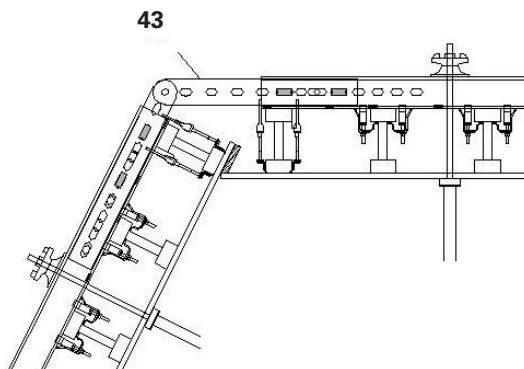

Fig. C2.02
- with large wall thicknesses, e.g. bridge construction (Fig. C2.02)